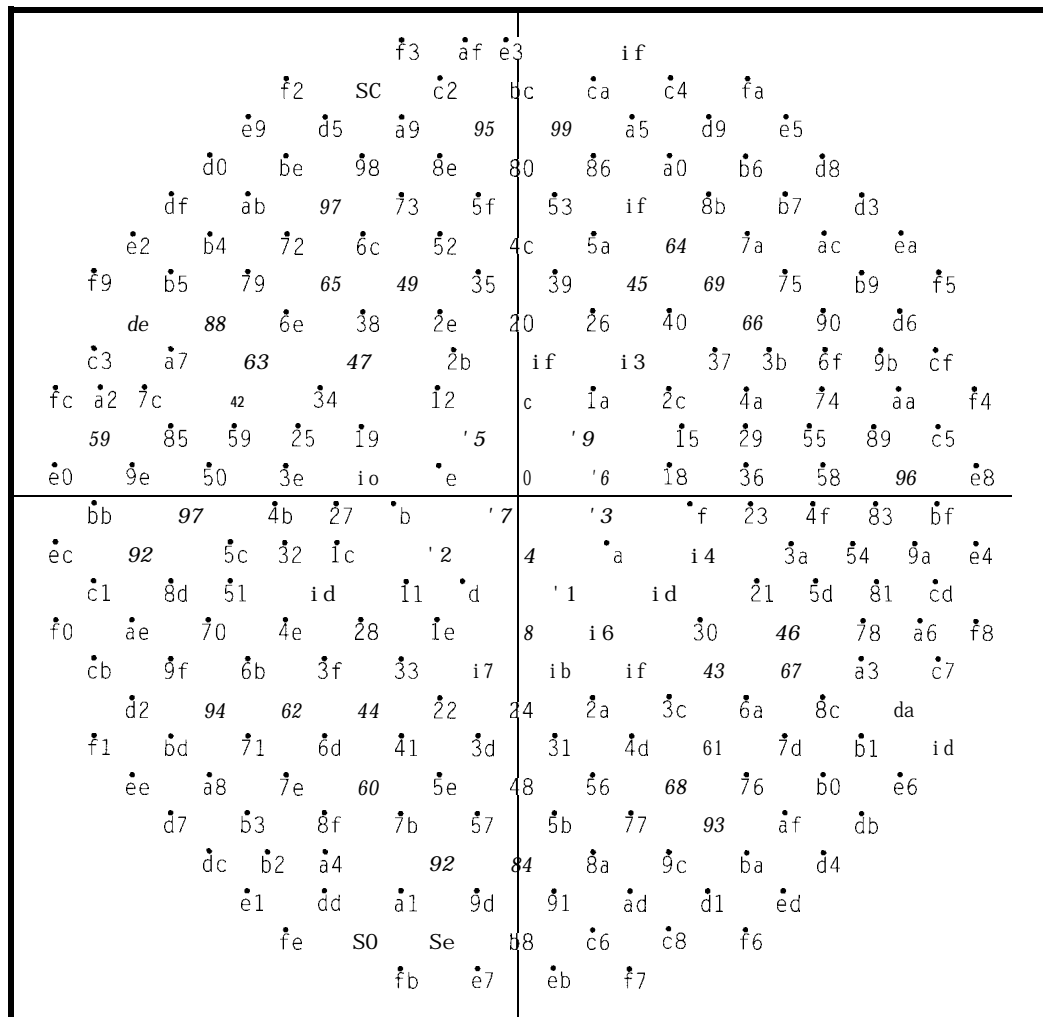
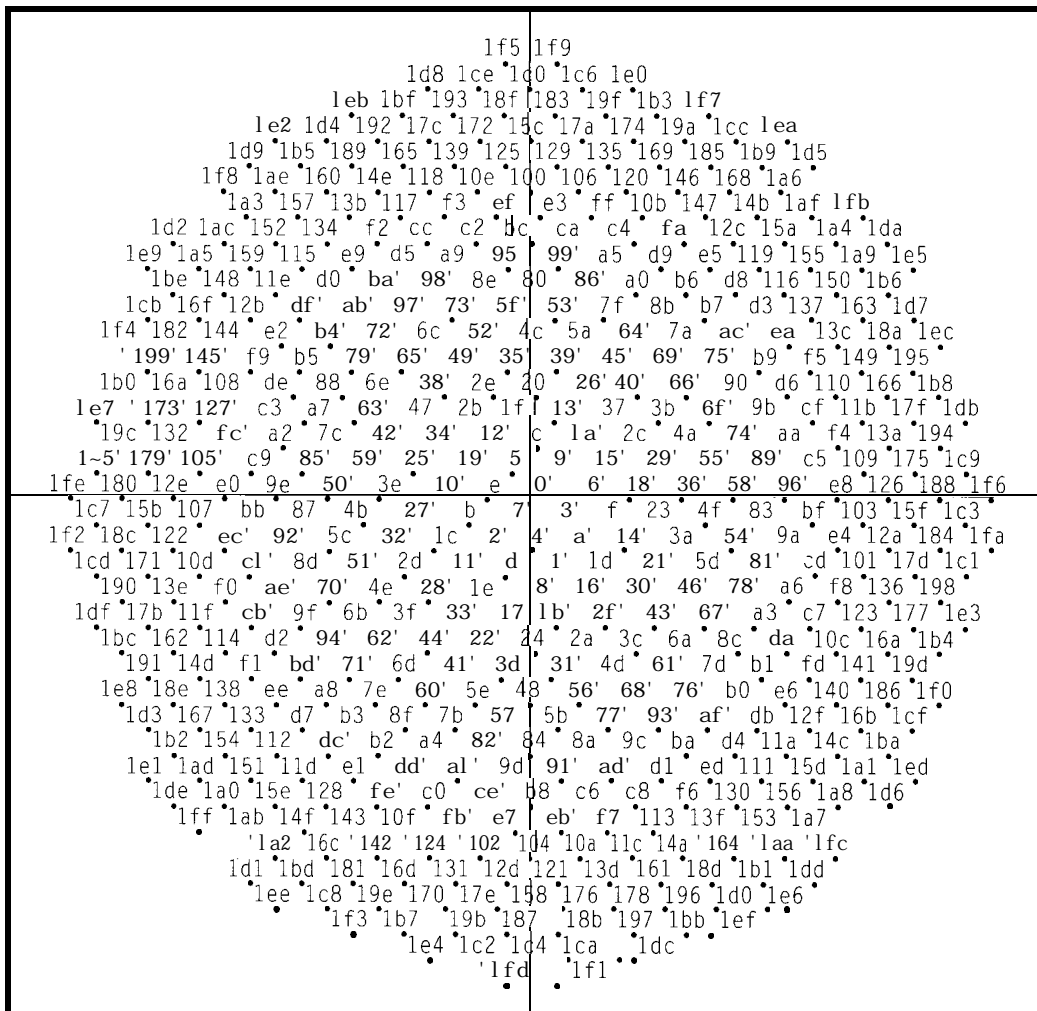

Figure 8—The signal constellation for a V.Terbo modem operating at 16,800 bps starts to get complicated
Figure 9—The signal constellation for a V.Terbo modem operating at 19,200 bps is downright scary.
V.terbo is an evolution of everything that's been applied up to now. It uses DPSK modulation and TCM. However, it is a stepwise refinement over V.32bis because it can encode up to 8 bits of data per baud. V.terbo modems can run at a base speed of 14.4 kbps, 16.8 kbps, or 19.2 kbps. When these modems are running at 14.4 kbps, they use the signal constellation defined by V.32bis. When they are running at 16.8 kbps, they use the signal constellation shown in Figure 8. And when they are running at a full-speed 19.2 kbps, then they use the signal constellation shown in Figure 9. If the modem is running at full speed, it is pumping data at a throughput of up to 19,200 bits per second **before any** compression is performed on the data. Now if you apply the V.42bis compression algorithm on top of this base throughput, you are talking about 76,800 bits per second. Pretty darn